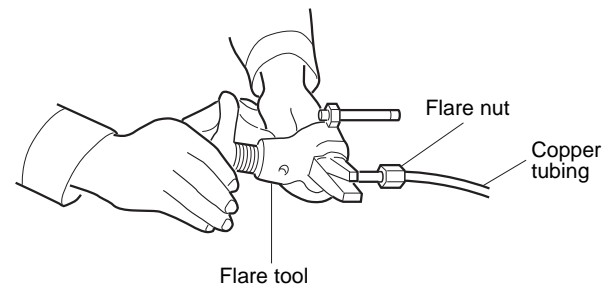

Fig. 7-3
- (3) Remove the flare nut from the unit and mount it on the copper tube.
- (4) Make a flare at the end of copper tube with a flare tool.\* (Fig. 7-3)